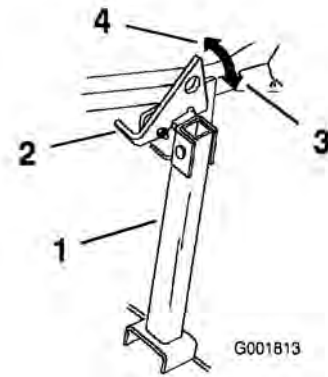

Figure 32
2. Raise the latch to the unlocked position (Figure 32).